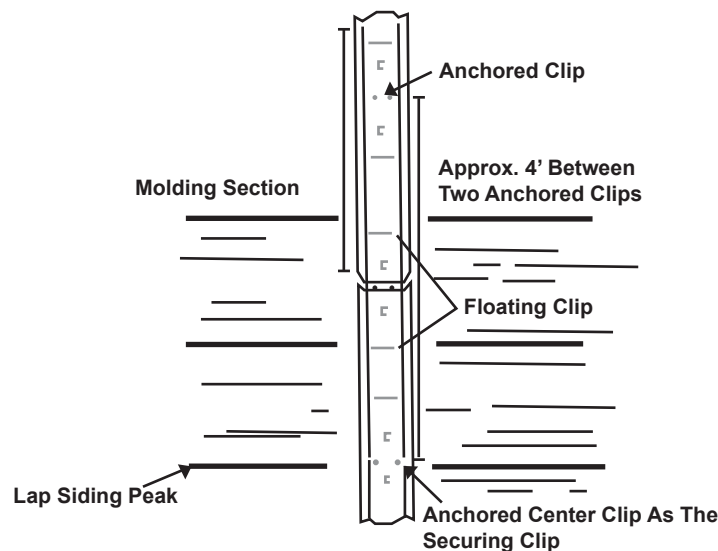

Figure 10.
- To connect two pieces of straight run molding when installing Lap Board Siding, use an unanchored "floating" clip. (Figure 10)